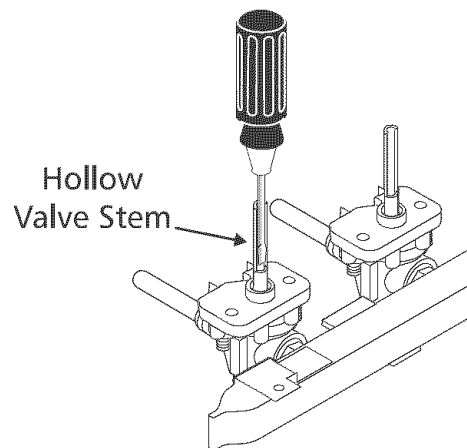

Figure 9
4. Adjust the "low" setting for regular surface burner valves (Figure 9)